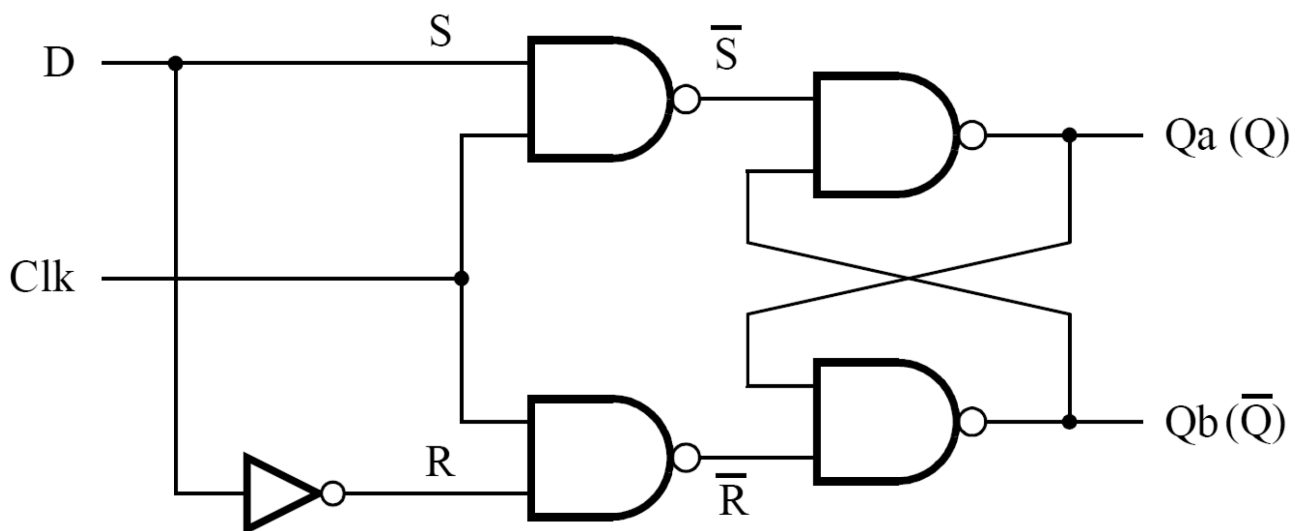
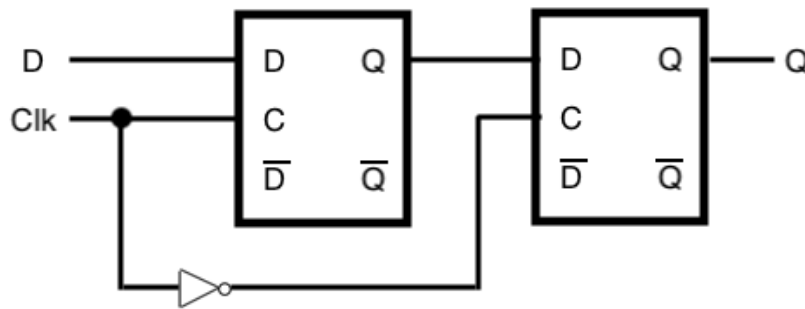

Figure 4.1: Circuit for a gated D latch.
Figure 4.2: Circuit for a master slave flip flop using gated D latches.
Figure 4.1 shows the circuit for a gated D latch. In this part, you will build the gated D latch using the 7400 chips (as in Lab 1) on the protoboard (breadboard). Refer back to the Lab 1 handout for 7400 chips schematics, specifications, and pin-out.
The most common storage element today is the *edge-triggered D flip-flop*. One way to build an edge-triggered D flip-flop is to connect two D latches in series, such that the two D latches use opposite levels of the clock for gating the latch. This is called a master-slave flip-flop, see Fig. 4.2.
1. In Logisim, build this gated D latch from Fig. 4.1 and the master slave flip-flop from Fig. 4.2, each in its own module. The flip-flop should be implemented using the module you create for the D latch, and the latch should make use of interconnected 7400-series chips. For this exercise, you are allowed to use NAND gates. Recall from Lab 1 what a gate-level schematic looks like.